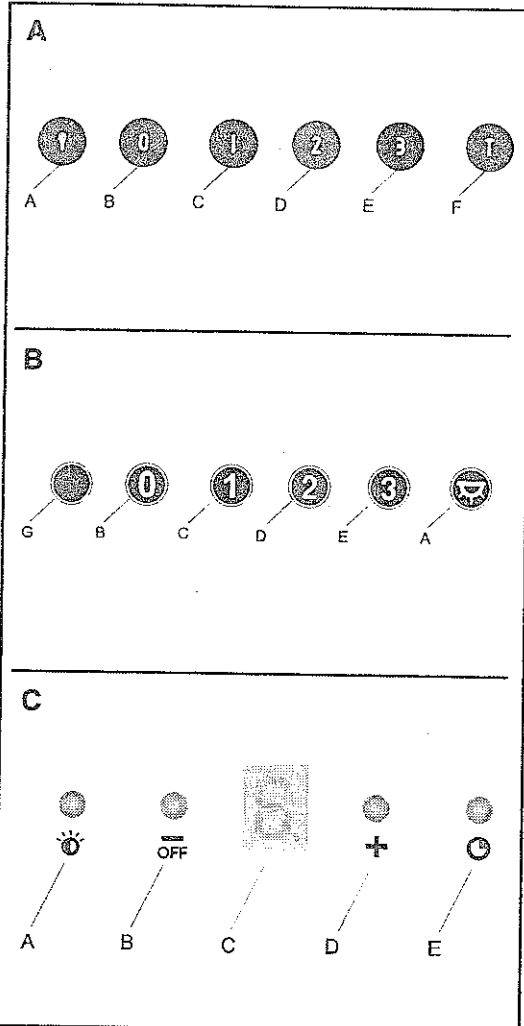

Fig.5
- **COMANDS:** 1A) LUMINOUS_1B) MECHANICAL (Fig. 5) the key symbols are explained below: